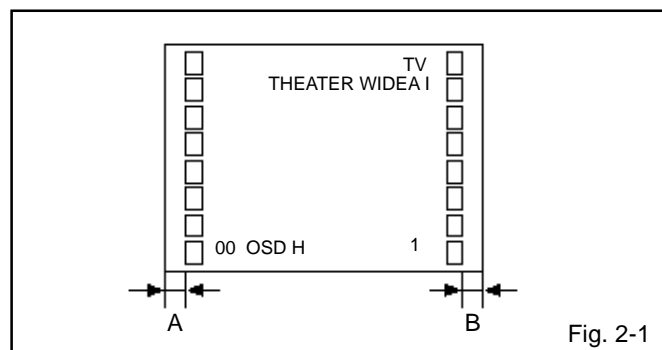

Fig. 2-1
4. Press the LEFT/RIGHT button on the remote control until the difference of A and B becomes minimum. **(Refer to Fig. 2-1)**